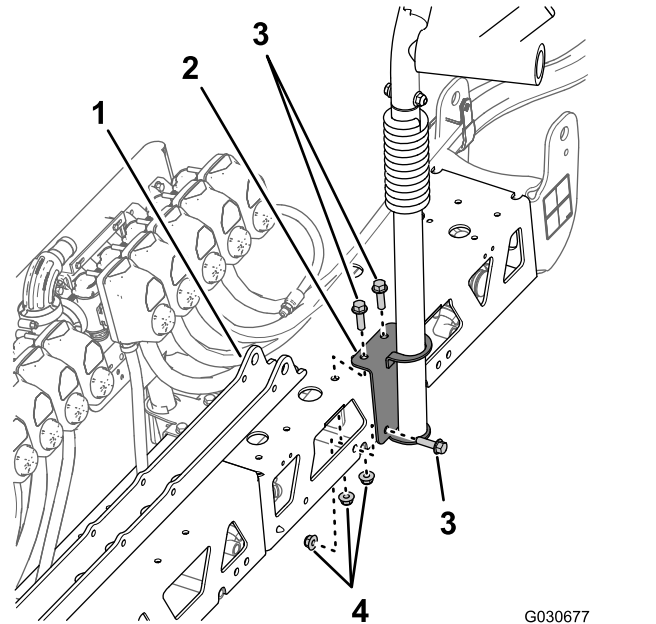

Figure 122
- Align the holes in the mounting bracket of the right boom cradle that you removed in step 3 in Removing the Boom Cradle \(page 36\) with the holes at the top and back sides (to the right of the cylinder mount) of the new center boom section (Figure 122).